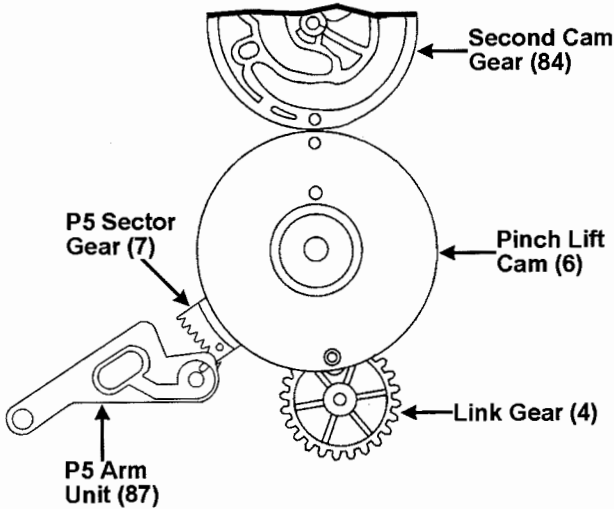

Figure 4
Align the P5 arm unit (87) with the P5 sector gear (7). Align the pinch lift cam (6) with the link gear (4). Align the second cam gear (84) with the pinch lift cam. See figure 4.